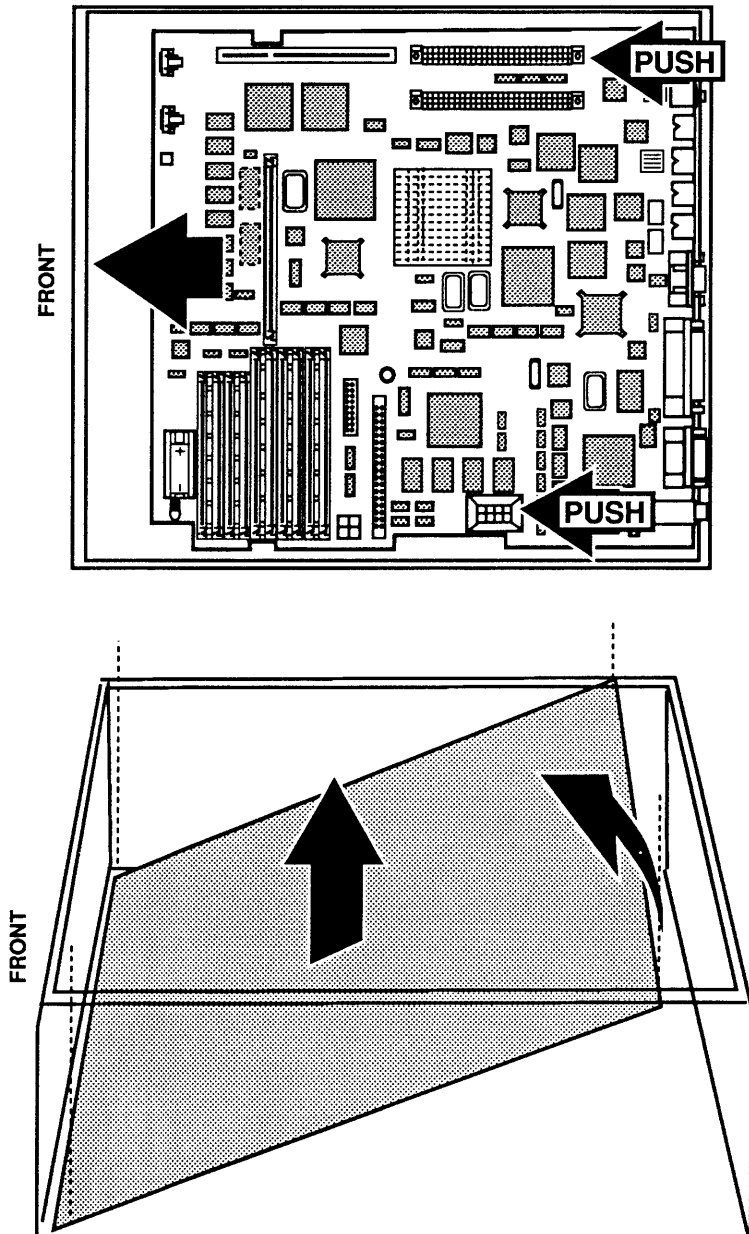

Figure 2-15 Removing the Logic Board
7. Slide the logic board toward the front of the case until it stops (**Figure 2-15**).